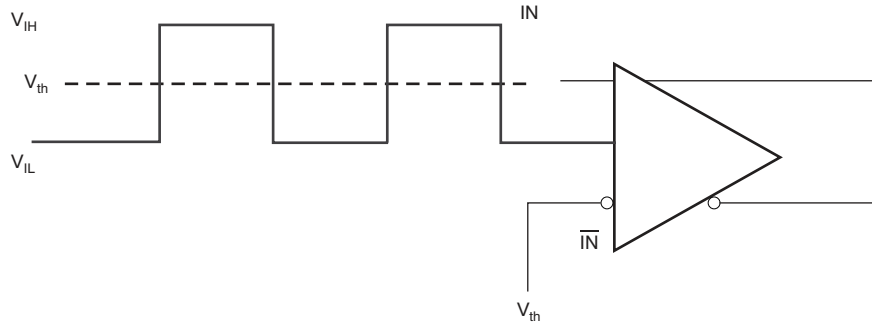
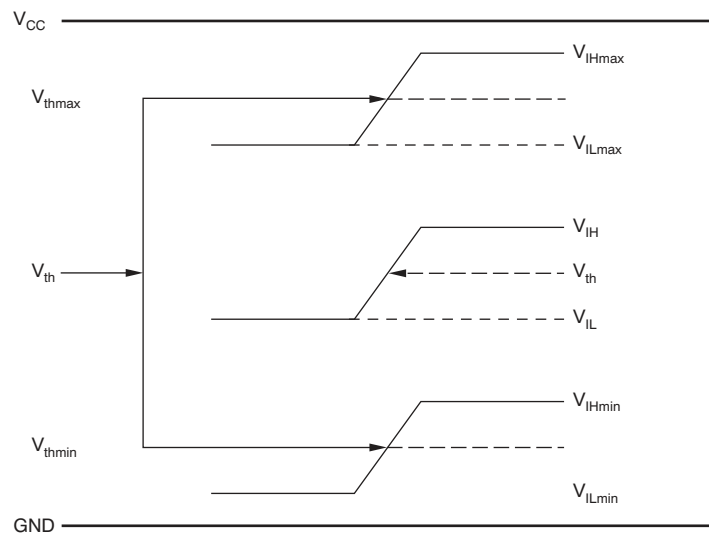
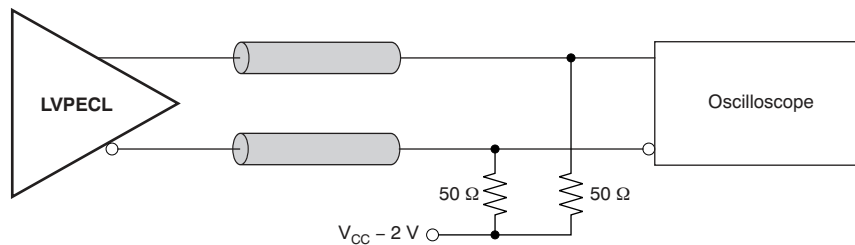
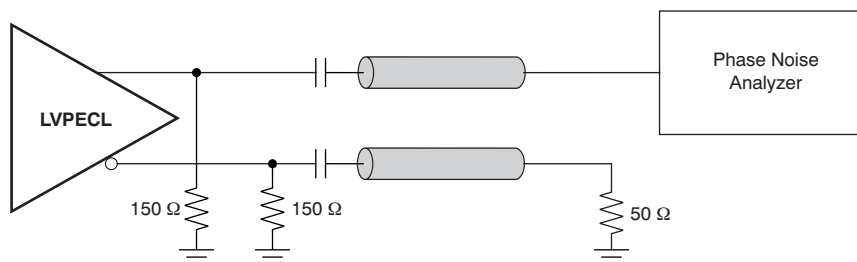

Figure 3. DC-Coupled LVCMOS Input During Device Test
Figure 4. V_{th} Variation Over LVCMOS Levels
Figure 8. LVPECL Output DC Configuration During Device Test
Figure 9. LVPECL Output AC Configuration During Device Test
(1) Figure 3 and Figure 4 show DC test setup.
(1) Figure 8 and Figure 9 show DC and AC test setup.
(2) Internally generated bias voltage ($V_{AC, REF}$) is for 3.3-V operation only. It is recommended to apply externally generated bias voltage for $V_{CC} < 3.0\text{ V}$.
This section describes the function of each block for the CDCLVP1102. Figure 3 through Figure 9 illustrate how the device should be setup for a variety of test configurations.